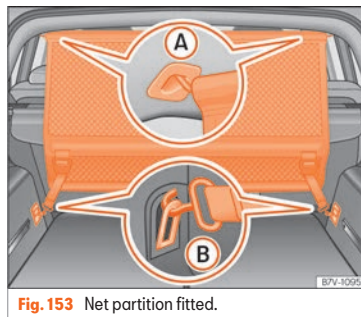

Fig. 153 Net partition fitted.
- Secure the net partition in the left housing of the roof » **Fig. 153** A. Make sure to move the cross rod down beyond the upper position.
- Hook in the net partition on the rear right-hand side roof housing by pressing on the rod »» Fig. 153 (A).
- Secure two hooks of the partition net to the fastening rings of the boot »» Fig. 153 (B) and tighten the straps firmly.
- Release the net hooks from the fastening rings »» Fig. 153 (B).
- Unhook the net partition on the right-hand side roof support »» Fig. 153 (A) by pressing on the rod.